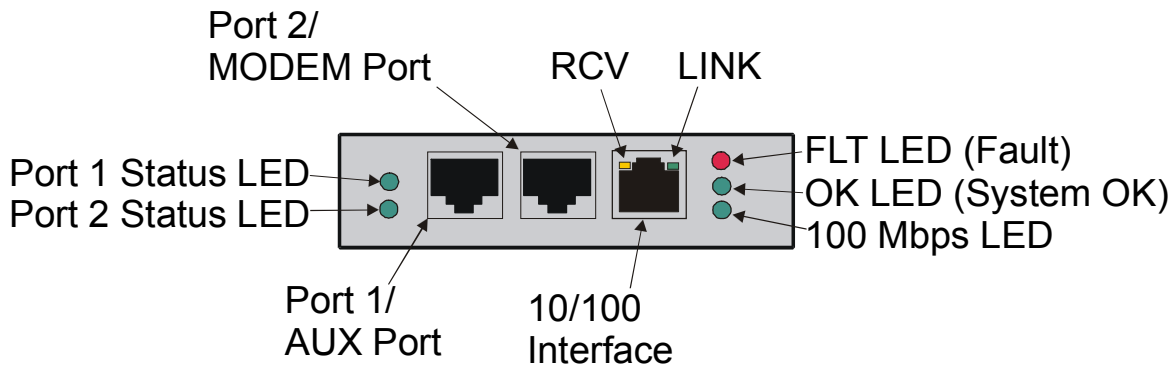
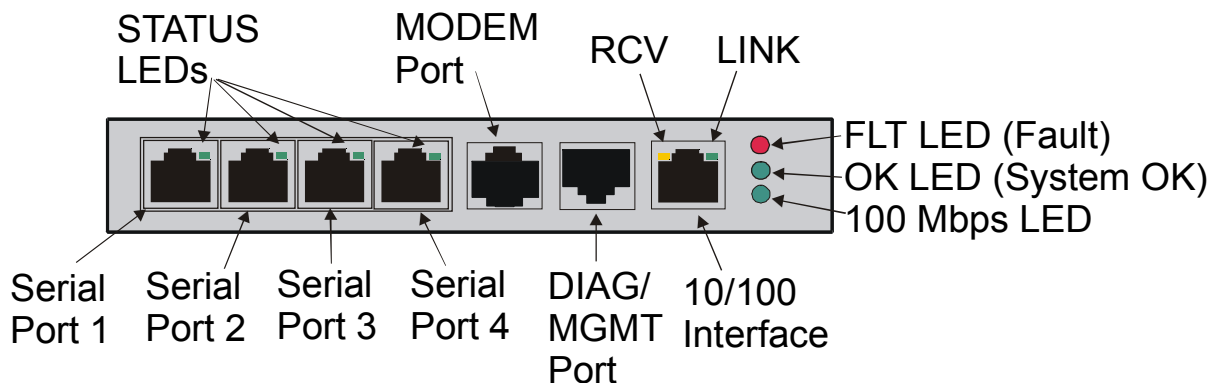
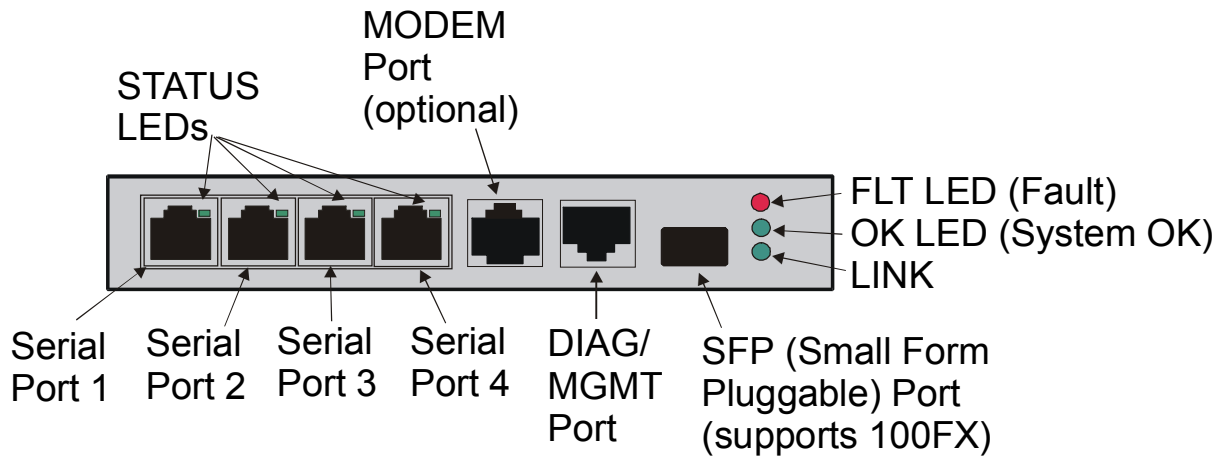
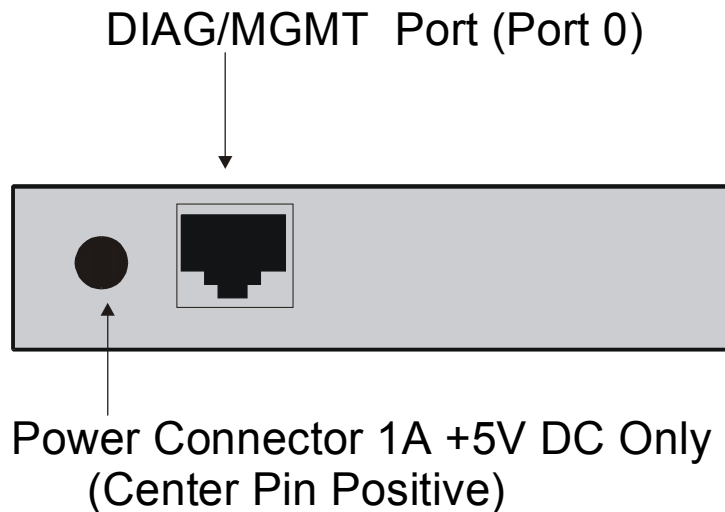

Figure 2 - LX-1000 Series 2-Port Front Panel
Figure 3 - LX-1000 Series 4-Port Front Panel
Figure 4 - LX-1000 Series Front Panel with SFP (Small Form Pluggable) Slot
Figure 5 - DIAG/MGMT Port (Port 0), LX-1000 2-Port Unit Rear View
- Connect the 10/100 Ethernet network cable to the 10/100 port on the front of the unit (see Figure 2, Figure 3, and Figure 4). The LINK LED comes on steady if the cable is properly connected.
Connect a fiber cable with an SC style connector into the SFP transceiver (see Figure 4).
- Connect the provided serial port cable to the DIAG/MGMT port (port 0) (see Figure 3, Figure 4, and Figure 5), and the other end to your terminal.
The LX is an intelligent unit; by default the LX attempts to obtain IP information via the DHCP, BOOTP, or RARP loading methods. If you choose to use these methods, a DHCP, BOOTP, or RARP server must also be configured on the network to support the LX-1000 unit, as needed. Otherwise, you can manually configure an IP address using the terminal connected to port 0 (see Figure 5). Refer to *Getting Started with the LX-1000 Series* or to *LX-Series Configuration Guide* for further information.